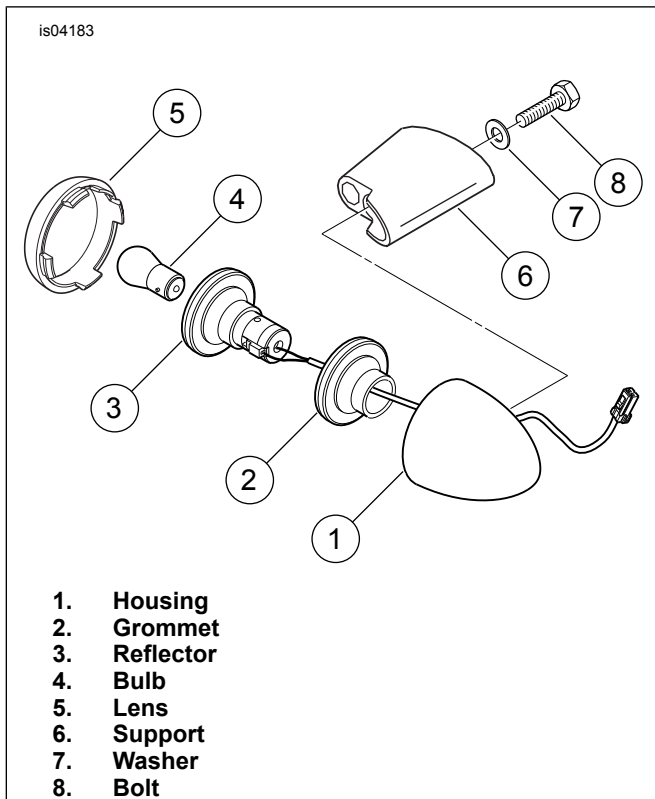

Figure 5. Removing Stock Turn Signal Stalk
- See Figure 5. Remove lens (5) from rear turn signal housing (1). Remove bulb (4) from the socket of reflector (3).
- Carefully pry the reflector and grommet (2) from the housing. Gently pull the wires from the smooth hole in the housing.